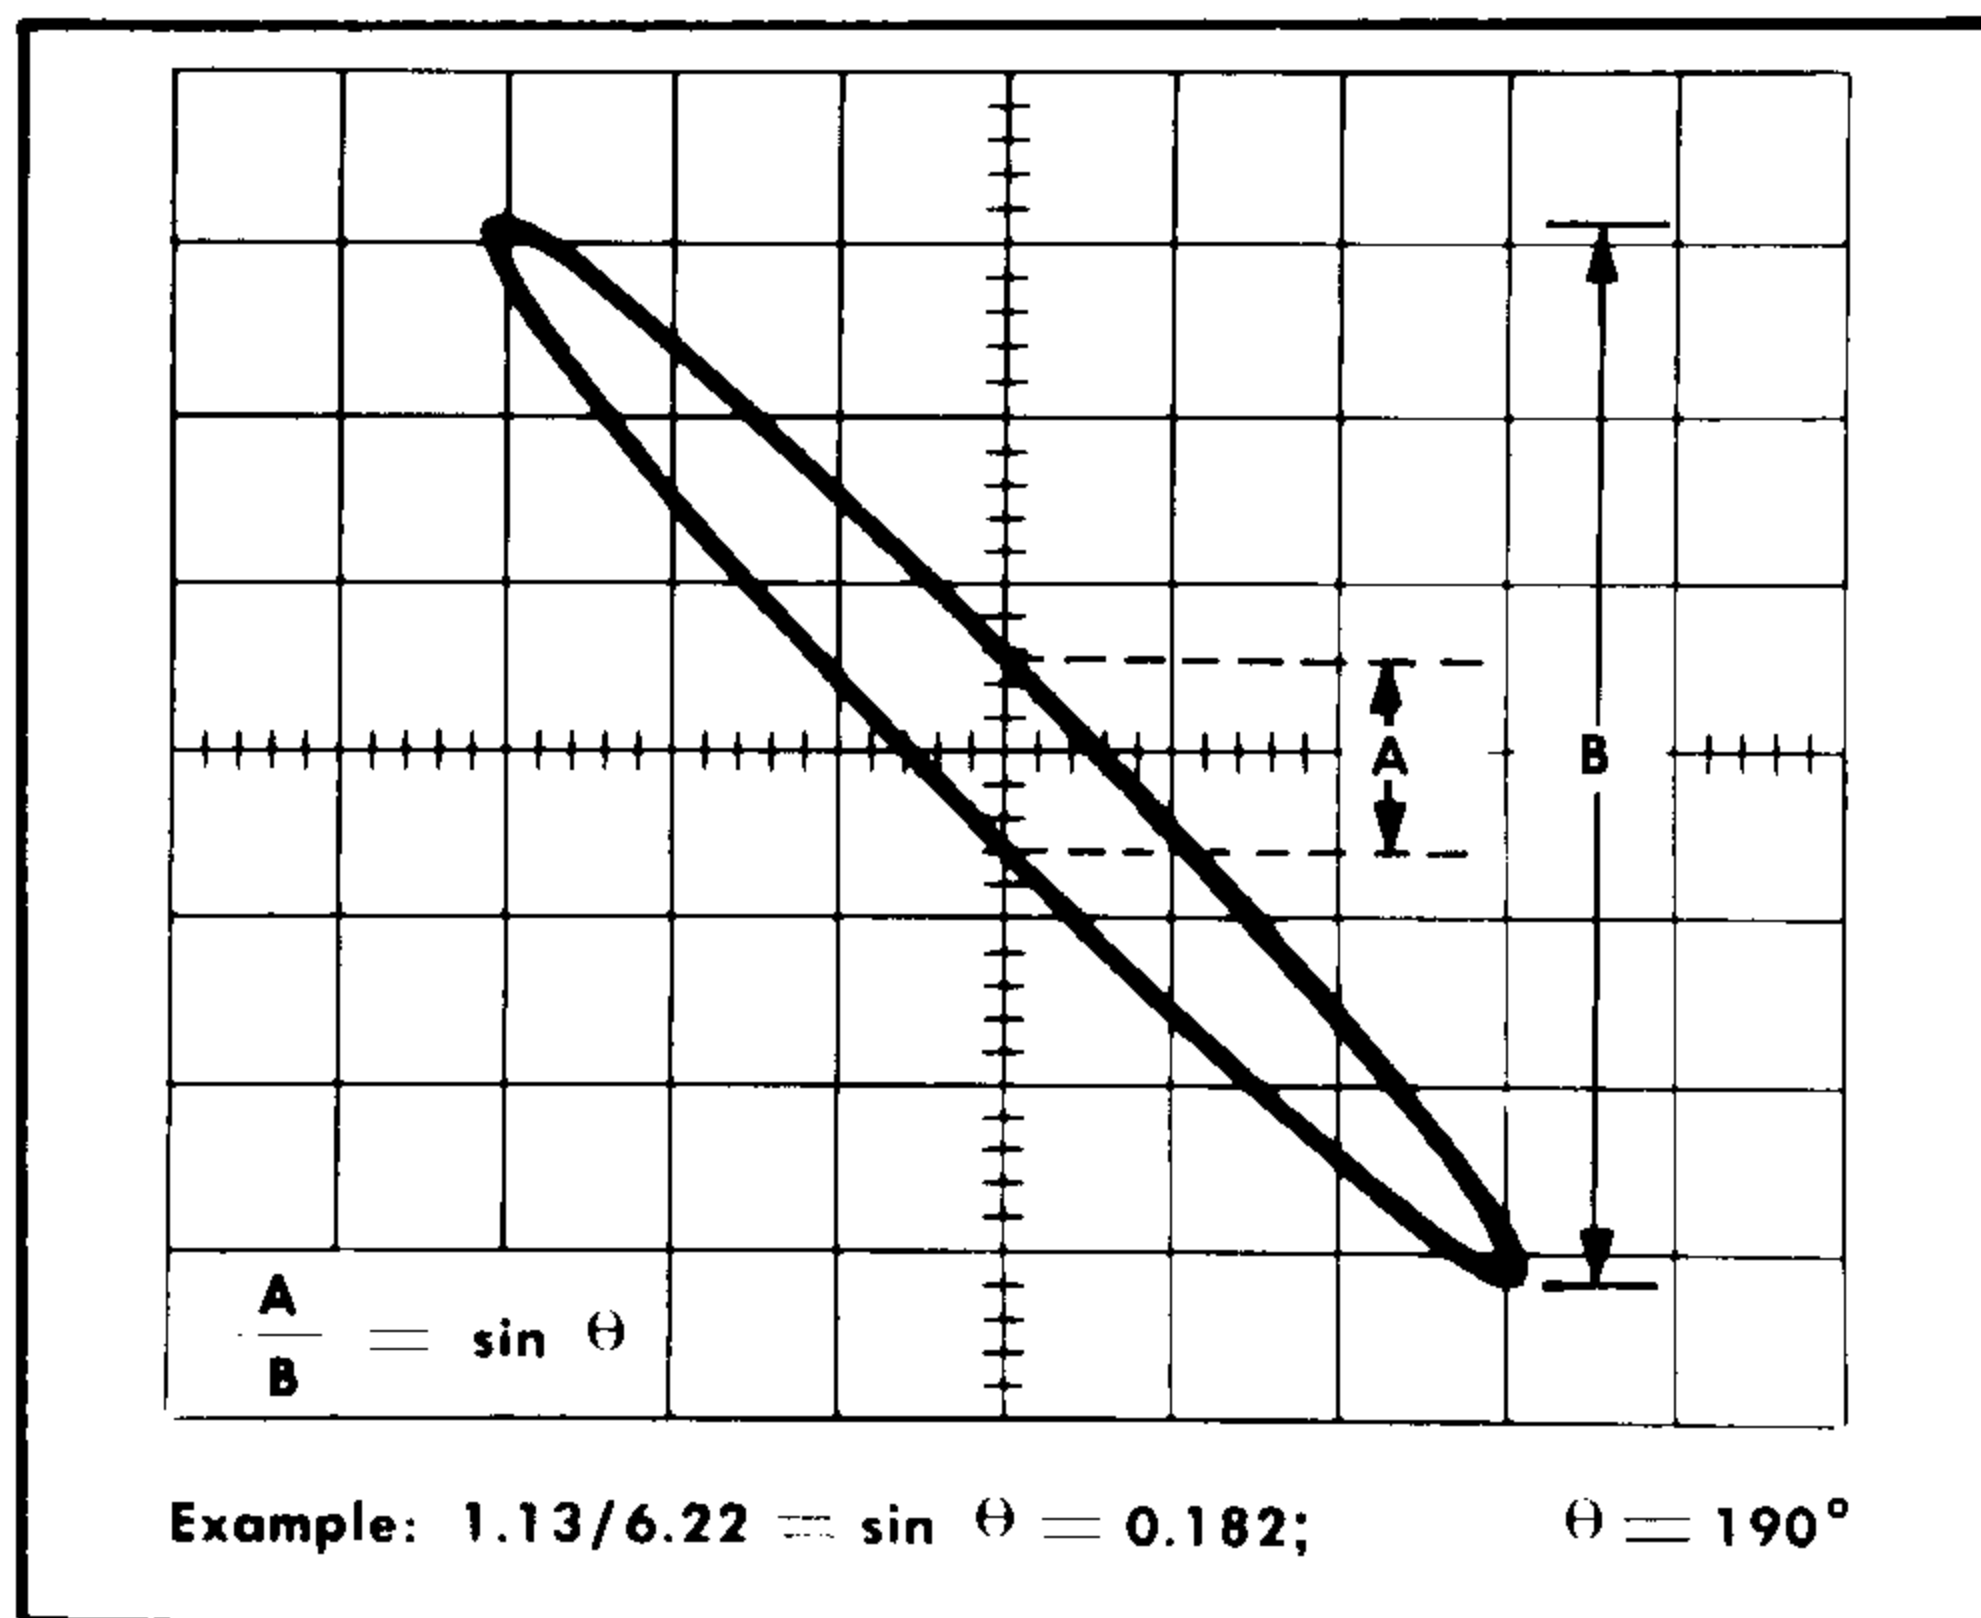

Fig. 2-21. X-Y method of calculating phase difference (θ) between two sine waves.
7. Measure the distance A and B on the display as shown in Fig. 2-21. A divided by B equals the sine of the phase angle between the two sine waves.